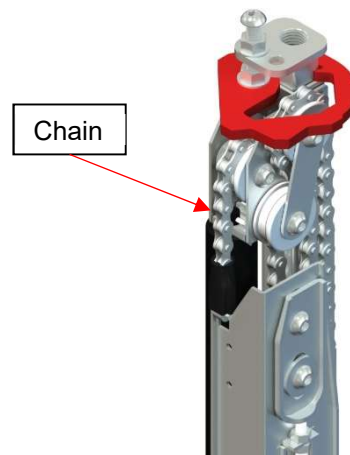

Figure 25
8) Inspect the post's chains for signs of deterioration. If this is the case, please call your local COVANA dealer immediately. (Figure 25)